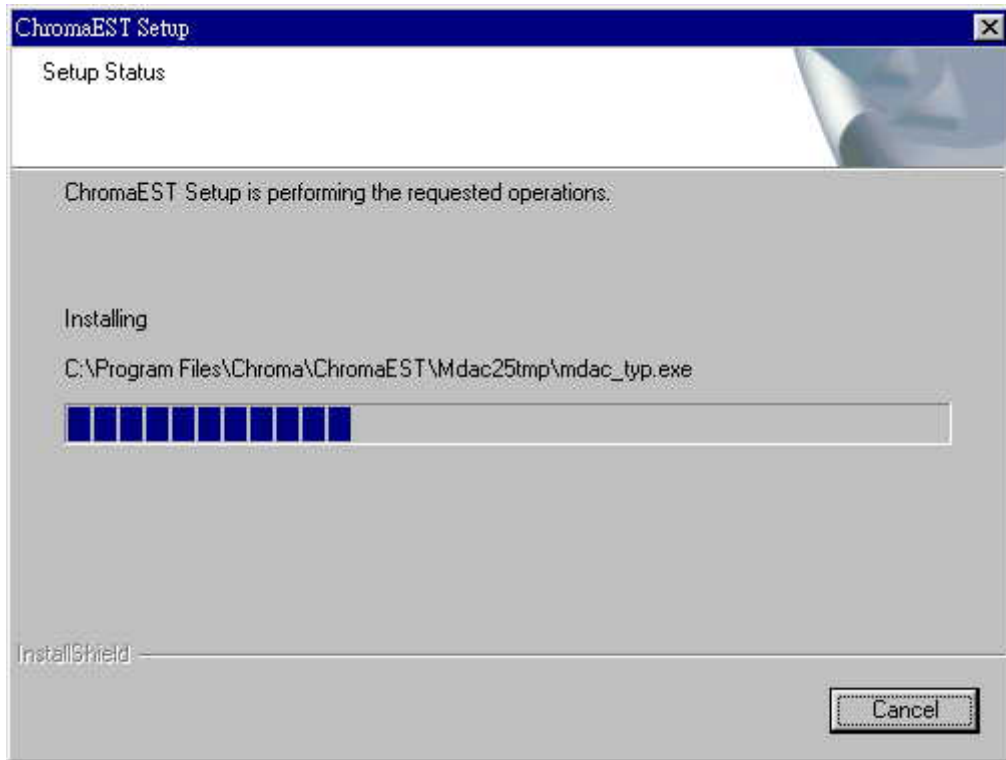

Figure 2-6 Chroma EST Setup Screen 5
- Next, the program starts to install as *Figure 2-6* shown.